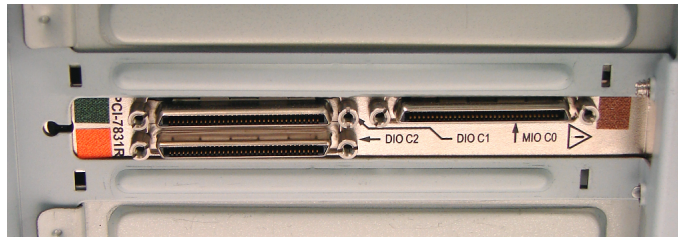
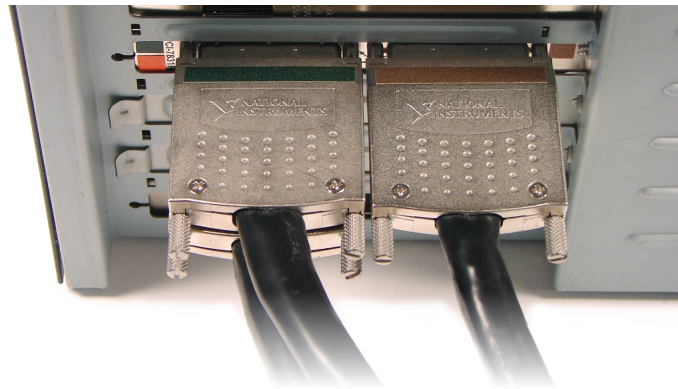
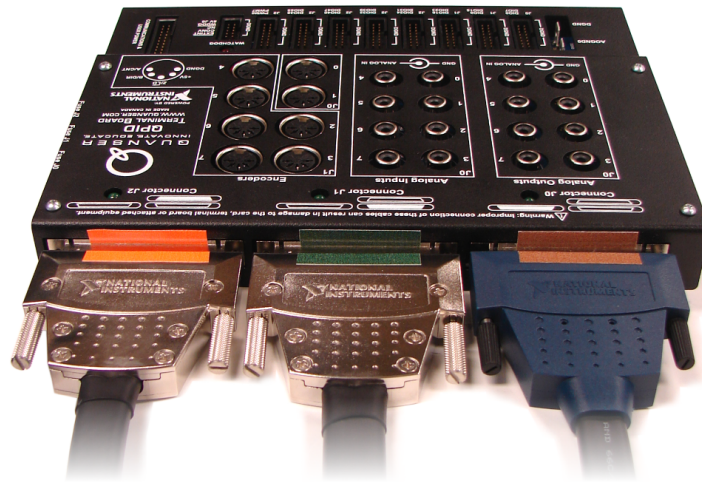

Figure 4.2: Connections on the installed QPID/QPIDe device with the color indications
Figure 4.3: Attaching the cables to the QPID/QPIDe device to match the corresponding colors
Figure 4.4: Attaching the cables to the terminal board to match the corresponding colors
The QPID/QPIDe cable connections are depicted in Figure 4.2, Figure 4.3, and Figure 4.4. The function of each cable is listed in Table 3.3.
2. The connectors on the QPID/QPIDe and terminal board are colour coded, as shown in Figure 4.2 and Figure 4.3. Align the sticker colors when connecting the cables.